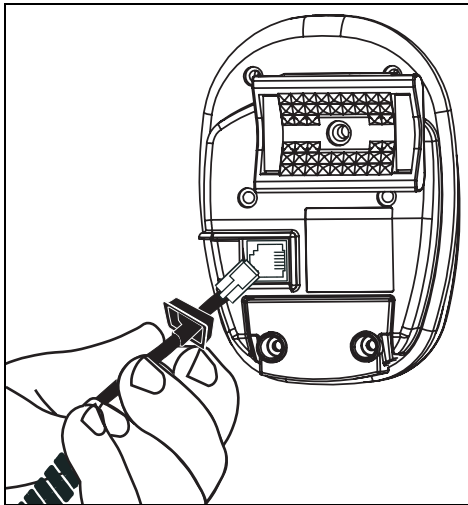

Figure 9: Back of controller showing cable being connected
3. Connect the coiled cable into the RJ11 connector on the back of the controller. Push the rubber boot firmly into the recess around the connector to ensure a tight seal. See Figure 9. (You will plug the other end of the coiled cable into the wired floor unit in the next procedure.)
Make sure that the rubber boot around the RJ11 connector is properly positioned. Push the rubber boot firmly into the recess around the connector to ensure a tight seal. See Figure 9.